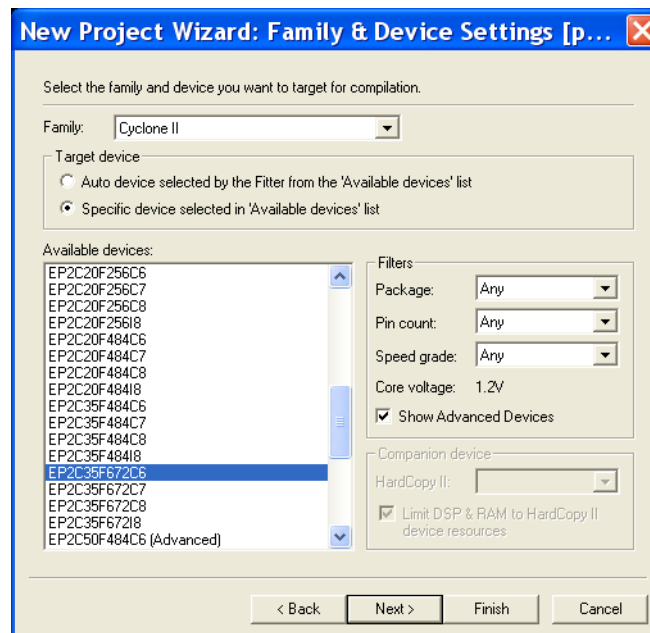

Figure 8. Choose the device family and a specific device.
3. The wizard makes it easy to specify which existing files (if any) should be included in the project. Assuming that we do not have any existing files, click Next, which leads to the window in Figure 8.